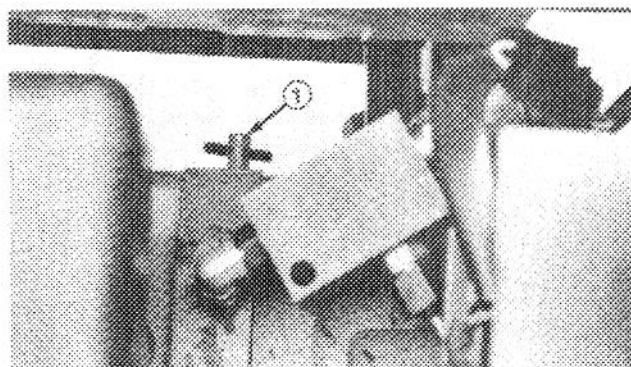

Figure 34
1. Reach under traction unit and rotate by-pass valve (Fig. 34) 1/2 to 1 turn counterclockwise. Opening the valve opens an internal passage in the transmission, thereby by-passing transmission oil. Because fluid is by-passed, traction unit can be moved without damaging the transmission.